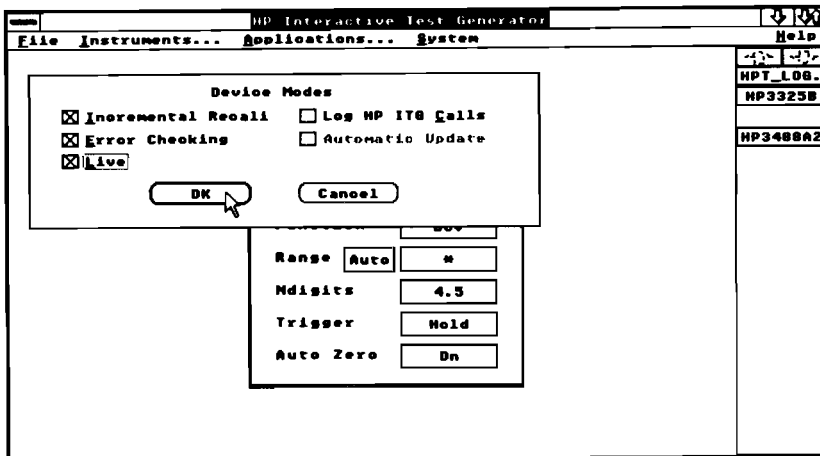

Figure 8-1. Controlling an Instrument with Live Mode
- c. Click on the box next to Live so an X appears in the box (figure 8-1).